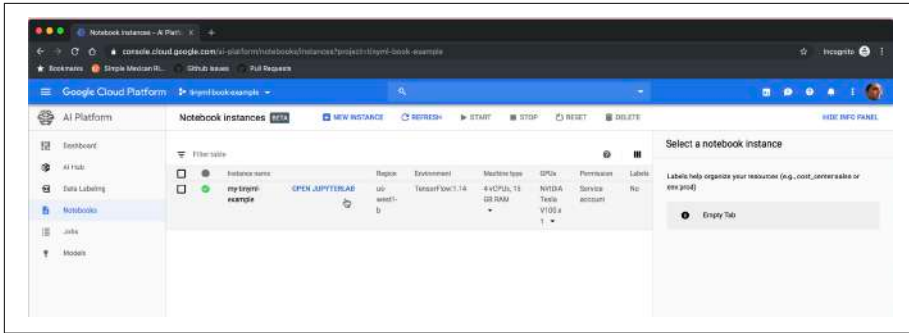

Figure 10-9. The instances screen
12. When you've set all those options, at the bottom of the page, click the CREATE button, which should return you to the "Notebook instances" screen. There should be a new instance in the list with the name you gave to your machine. There will be spinners next to it for a few minutes while the instance is being set up. When that's complete click the OPEN JUPYTERLAB link, as depicted in Figure 10-9.